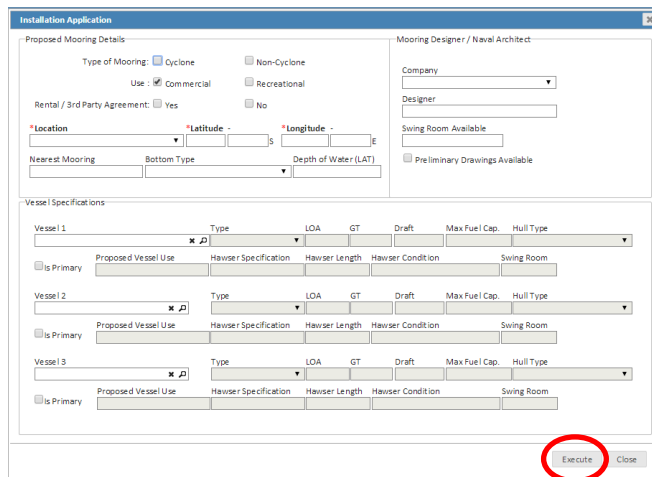

Figure 4.1
- This box will now appear, see figure 4.1.